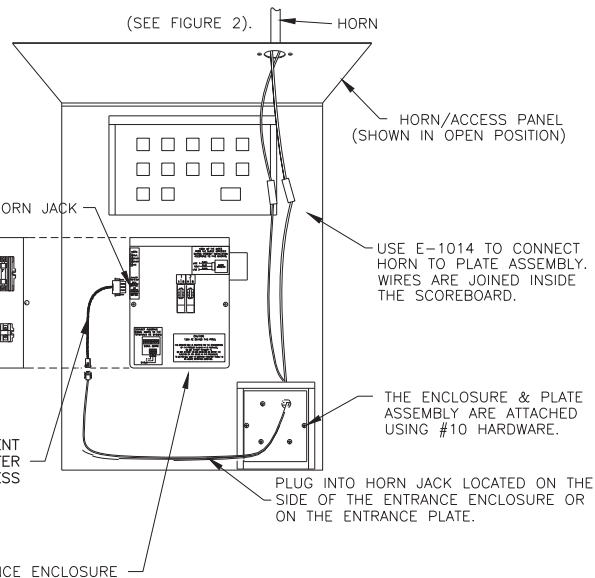

FIGURE 3
6. USING THE WIRE NUTS PROVIDED CONNECT ONE GRAY WIRE FROM THE HORN TO THE BLACK WIRE FROM THE PLATE ASSEMBLY. CONNECT THE OTHER GRAY WIRE TO THE RED WIRE (FIGURE 3).